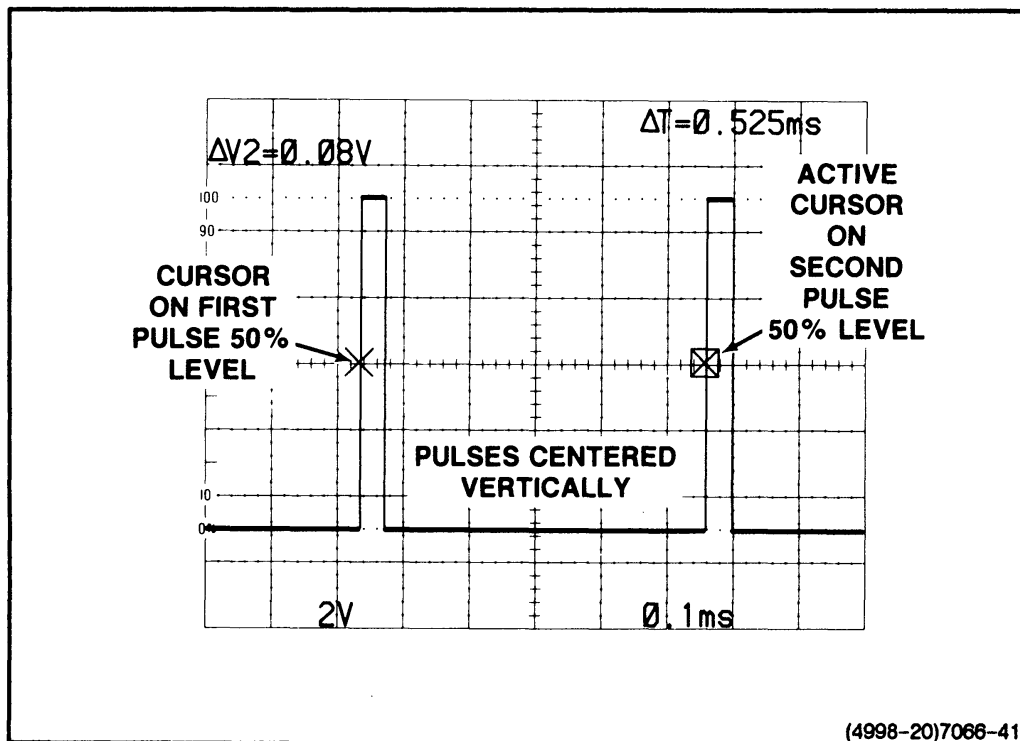

Figure 6-16. Time difference between repetitive pulses.
8. Push in the **CURSORS** knob (**SELECT C1/C2**) to select the other cursor and use the **CURSORS** control to move the active cursor to the 50% level on the leading edge of the second pulse (see Figure 6-16).